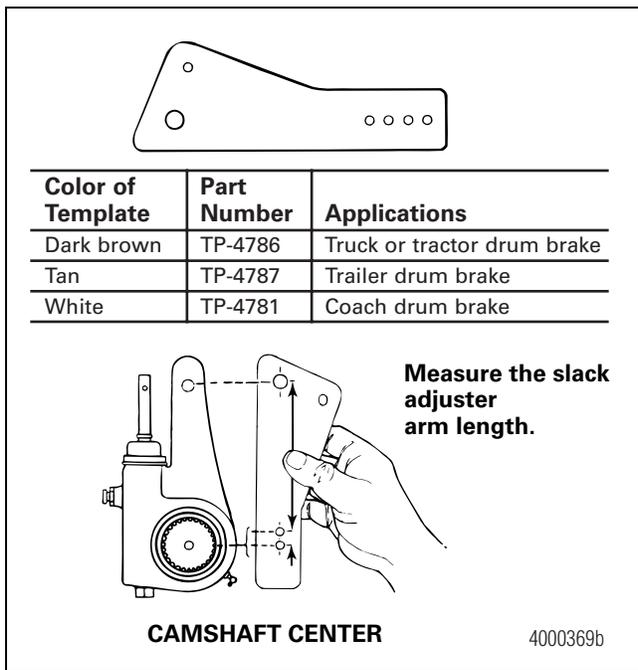

Figure 5.7
1. If you install the same slack adjuster that was removed, install the clevis on the push rod in the position you marked when you removed the clevis. Check the position of the clevis with the Installation template. Figure 5.7.
- **If you are installing a new slack adjuster:** Verify it is the same length as the one you are replacing. Install the clevis on the push rod. Check the position of the clevis with the Installation template. Figure 5.7.